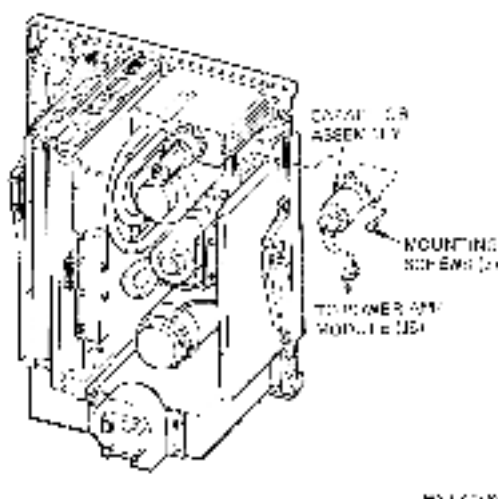

Figure 4-32 Capacitor Assembly
3. Remove the three mounting screws from the capacitor assembly (Figure 4-32). Remove the capacitor assembly.
1. Mount the replacement capacitor assembly as shown in Figure 4-32, and secure it with the three mounting screws.